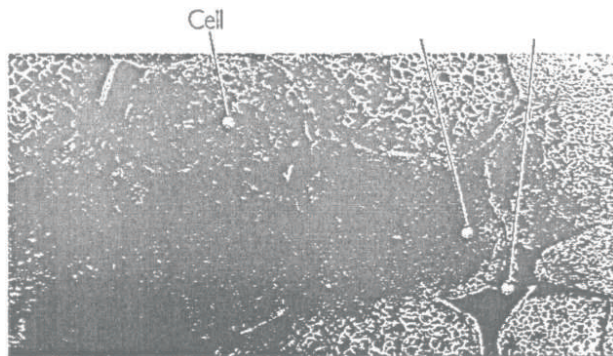

FIGURE 8
2) Interconnected Cell Type: This type of insulation is made by compressing foam or cork pellets to form sheets or tubes in which the individual sheets are surrounded by empty spaces, as shown in Figures 8 & 9.